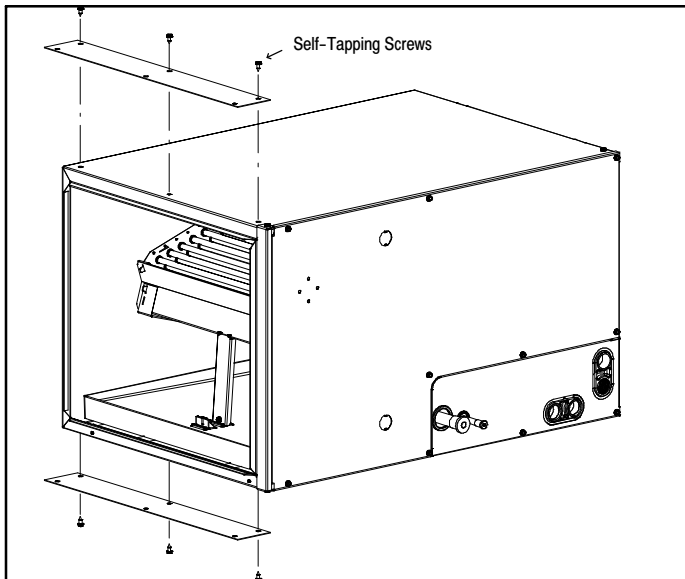

Figure 4 – Horizontal Right Installation
1. Use field fabricated attachment plates to secure coil to furnace. (See **Figure 4**)